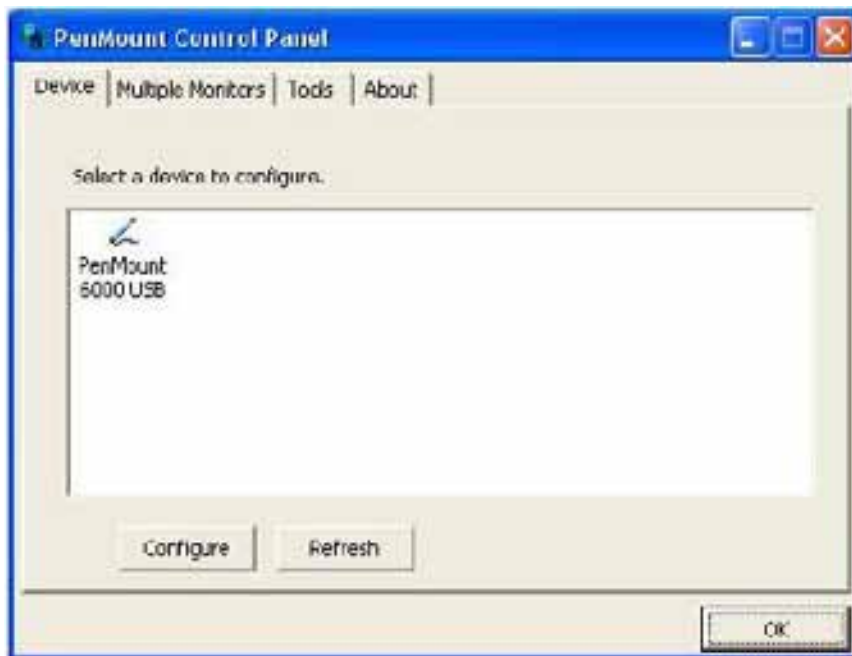

Figure 7-12: Configuration Screen
Step 6: The configuration screen in **Figure 7-12** appears.
Step 7: Double click the PenMount 6000 icon as shown in **Figure 7-12**.